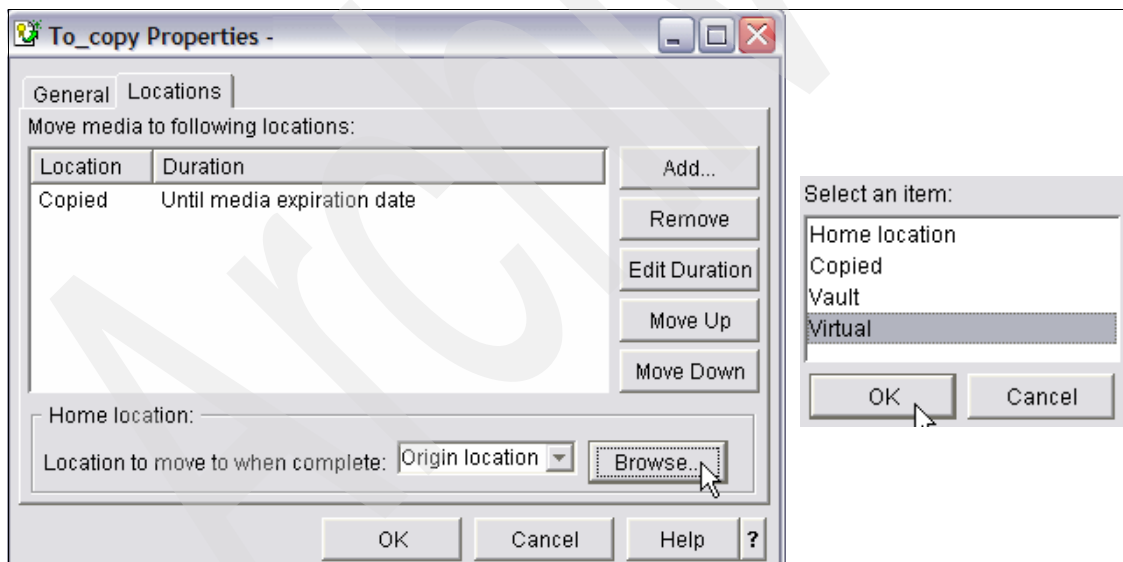

Figure 7-12 Change return location
2. Figure 7-12 shows that the move policy has two tabs: